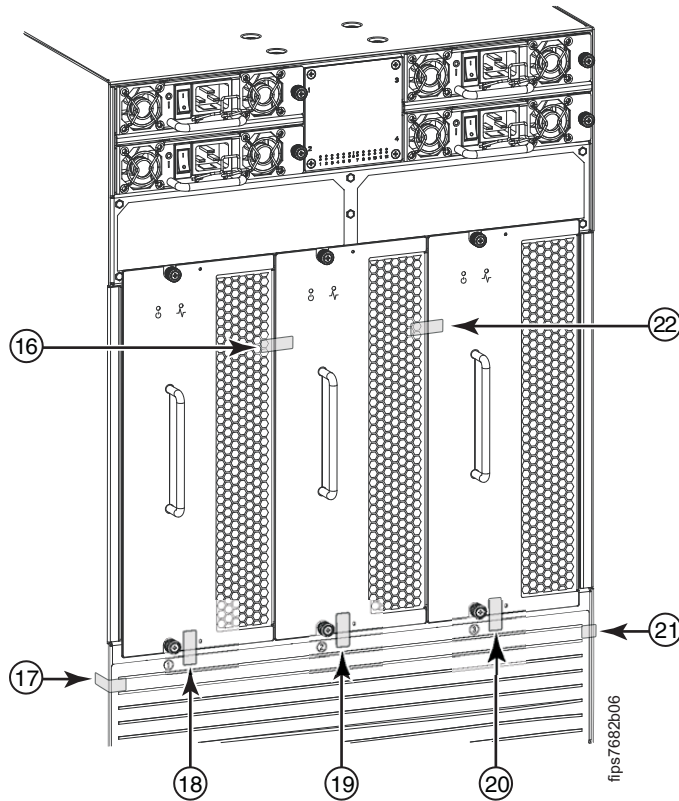

Figure 57. Seals applied to the nonport side of the 2499-816
Figure 57 on page 56 shows the non-port side of the 2499-816 with the FIPS seals in place. Refer to the figure when performing the procedure.
2. Apply one seal mounted horizontally that bridges the seam between each fan FRU. Two seals are required ( **16** and **22** in Figure 57). Ensure that the seal is firmly affixed to both sides of the seam.